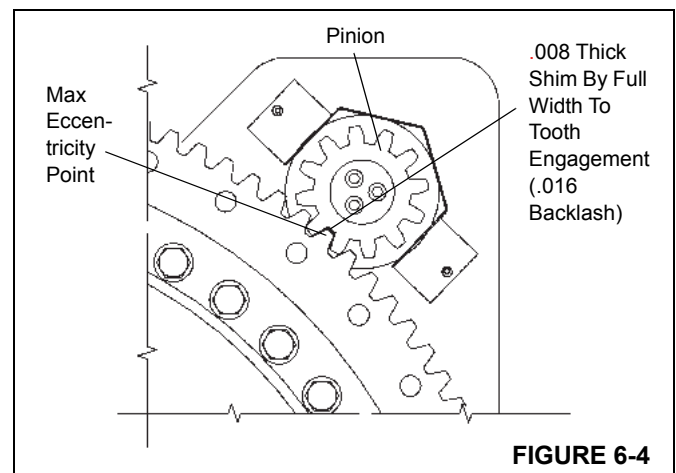

FIGURE 6-4
5. Install the gearbox pinion aligning the high point (maximum eccentricity) on the turntable bearing. Using a 0.203 mm (0.008 in) thick shim, check the backlash (Figure 6-4). If the pinion must be moved to achieve proper backlash, contact your local distributor.